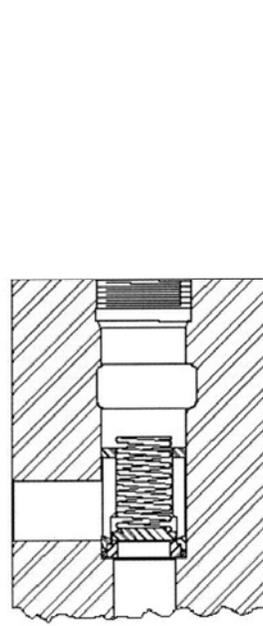

Figure 15
8. Check disc and spring to see that they are free in the cage. Pull magnet loose. (Figure 15, page 43).
9. Using a flashlight, check the spring for correct positioning on valve disc and for proper preload. Check valve disc to be certain top side is up. (See Figure 15, page 43).